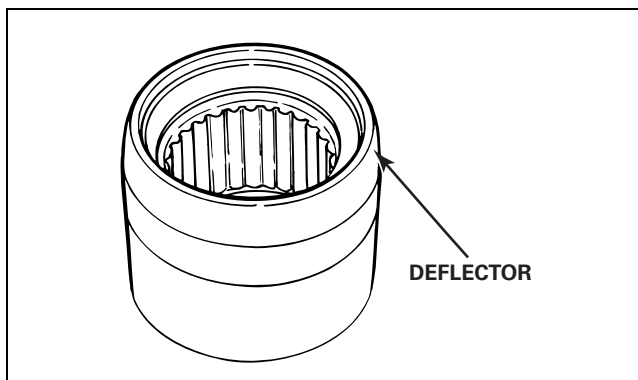

Figure 4.31
3. Verify that the plastic deflectors are attached to the round bushings. Figure 4.31.